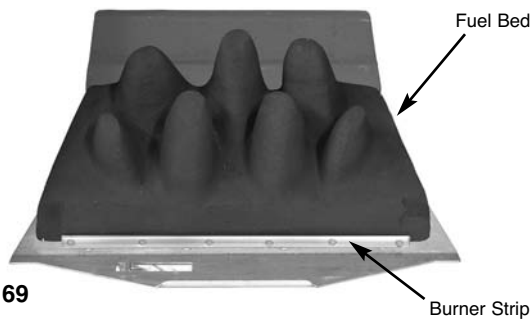

Fig. 69
2. Place the main fuel bed on to the middle section of the metal burner tray. It is important that the front edge of the fuel bed is located behind the burner strip (Fig. 69).